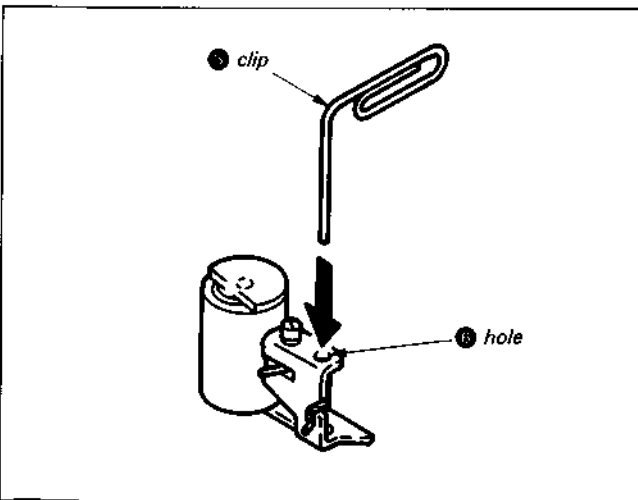

Fig. 7-20.
- 2) Insert the end of a paper clip ④ or other thin rod inside the pinch roller arm assembly hole ⑤. (See Fig. 7-20, 7-21.)